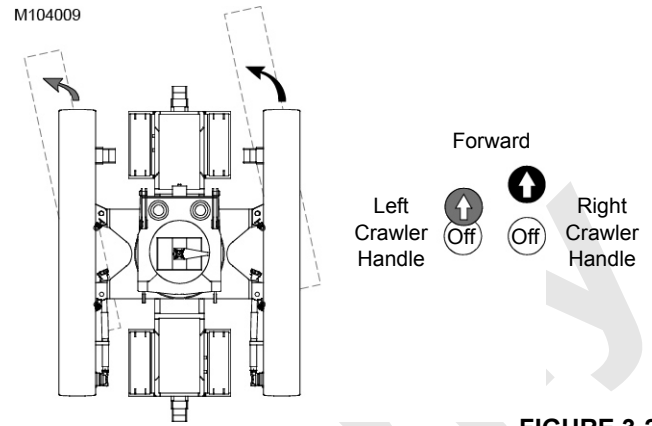
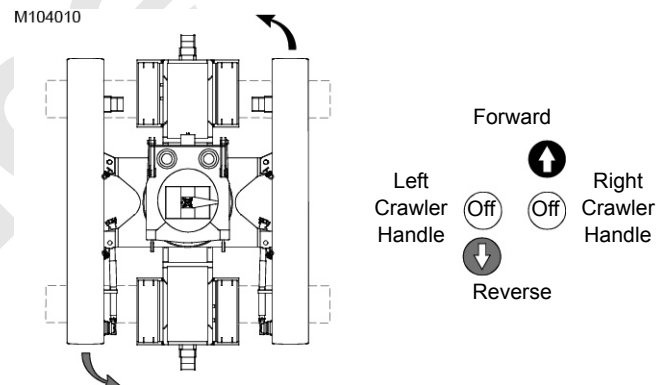

FIGURE 3-24
FIGURE 3-25
- Make gradual turns (Figure 3-24) or counter-rotate (Figure 3-25) whenever possible so both crawlers are always powered.
10. To make a gradual left turn, move both crawler handles to the front, but move the right crawler handle farther to the front than the left crawler handle. The right crawler will turn faster than the left crawler (Figure 3-24).
12. To counter-rotate left, move the right crawler handle to the front and move the left crawler handle to the rear. (Figure 3-25).